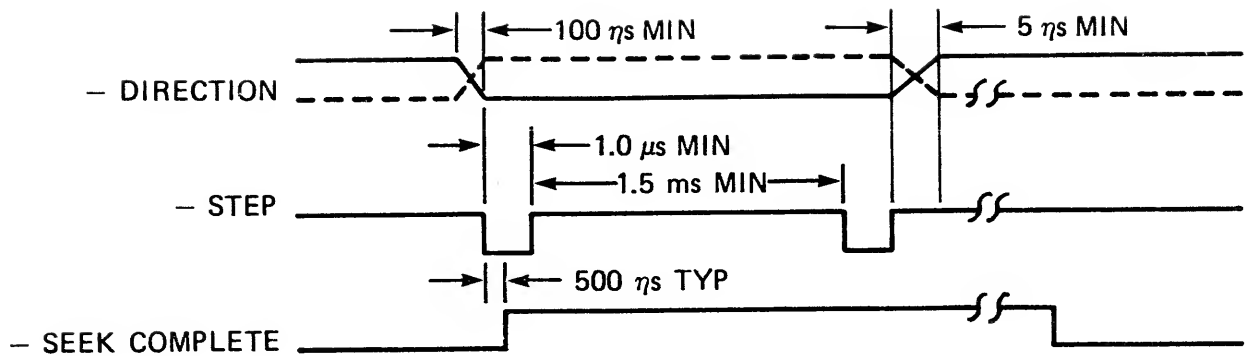

FIGURE 3-4
- STEP - A LO pulse, of at least 1.0 usec duration, on this line will cause the R/W head to move in the direction defined by the DIRECTION IN line. If STEP pulses occur at a rate equal to or greater than 1.5 MS between pulses the heads will move at the rate of the incoming steps (normal step mode). If the incoming step pulse rate is equal to or less than 600 usec between pulses, the pulses are buffered into a counter and motion occurs after the last step pulse is received (burst mode). See Figures 3-4 and 3-5 for Step Timing.